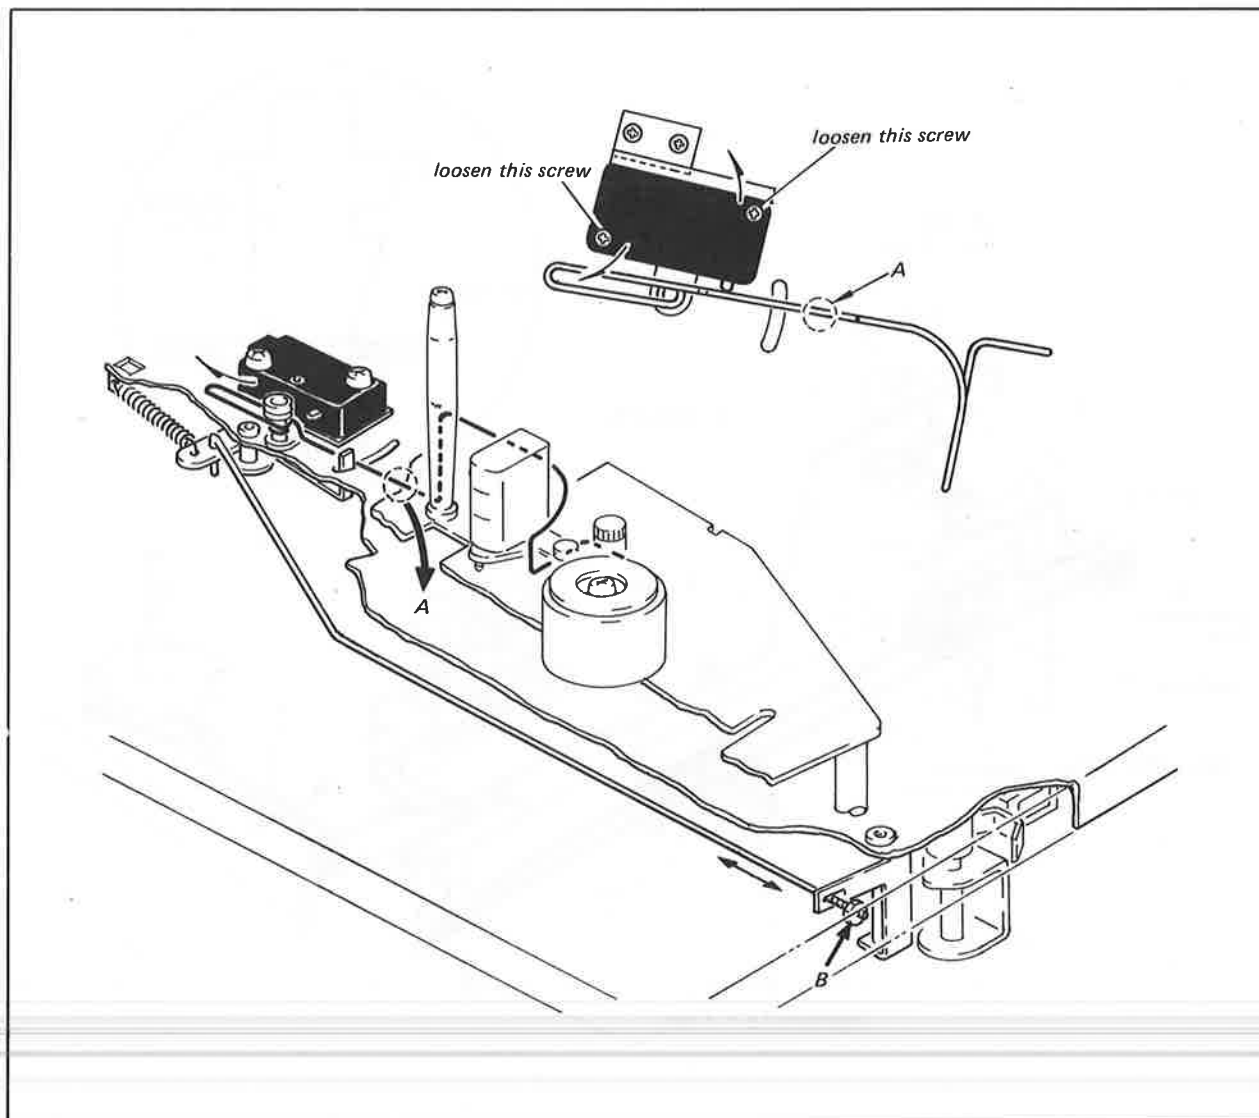

Fig. 4-20. Automatic shutoff switch adjustment
4. Set the Function Lever to STOP. Check for approximately 4 mm or more clearance between the tape surface and the sensing wire. If not, bend Section "A" of the sensing wire with a pair of pliers or turn the split nut at "B" shown in Fig. 4-20.
6. Loosen the two screws that secure the microswitch to the mounting bracket or the two screws that fasten the mounting bracket to the chassis. Slide the bracket or microswitch to obtain the correct condition. See Fig. 4-20.